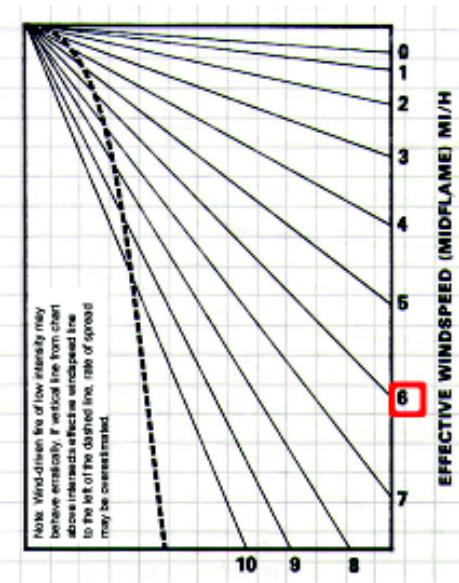

Figure 9.8—Nomogram—lower right quadrant.
Step 2. Using the lower right quadrant of the nomogram, see figure 9.8: